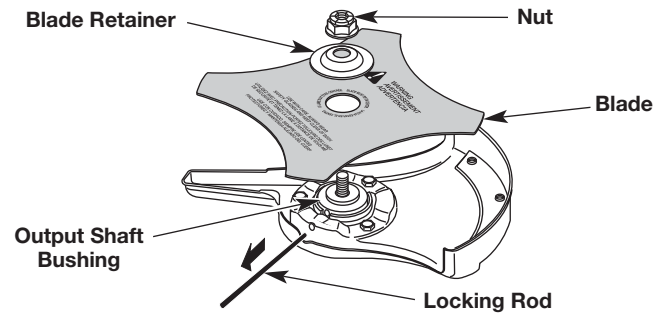
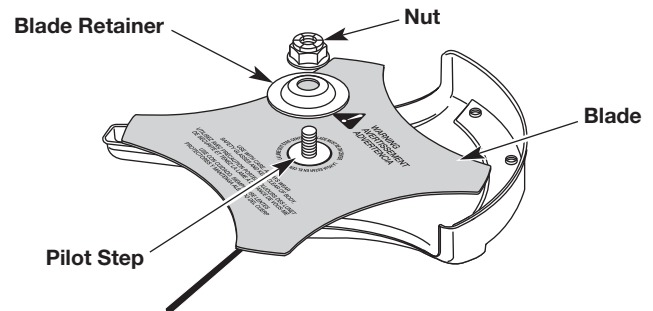

Fig. 20
Fig. 21
3. Remove the locking rod (Fig. 20).
4. Remove the nut, blade retainer and blade (Fig. 20).
1. Put the blade on the output shaft bushing (Fig. 20). Make sure the blade is centered on the pilot step (Fig. 21). The blade should sit flat against the output shaft bushing.
3. While holding the locking rod in place, put the blade retainer and nut on the output shaft (Fig. 21).